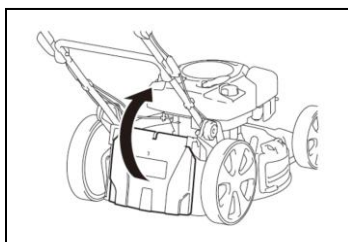

Fig. 4A
1. To fit: lift the rear discharge guard and fit the grass catcher. (Fig. 4A/4B/4C)